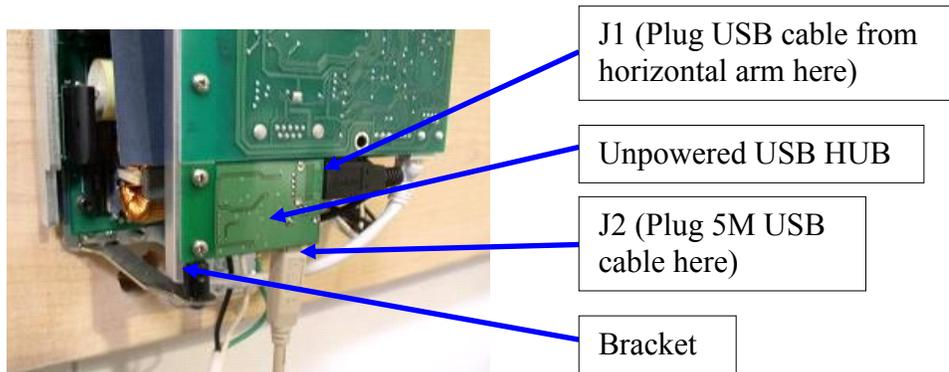

Figure 35
13. Attach the unpowered USB Hub (part #30-08128) to the bracket adjacent to the Logic PCB. Use the two 3 mm x 5 mm screws provided (see Figure 35 on page 22).
15. Plug the USB cable from the horizontal arm into J1 of the unpowered USB Hub (see Figure 35 on page 22).
16. Connect the 5 m USB extender cable (part #E1-13047) to J2 of the unpowered USB Hub (see Figure 35 on page 22).